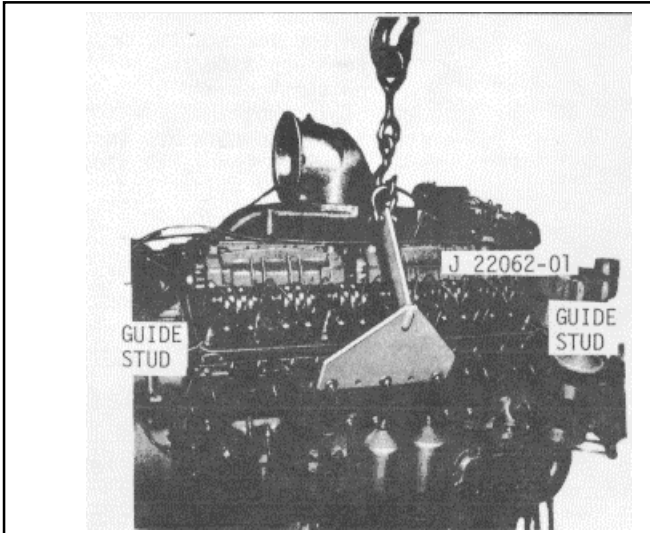

Fig. 5 Removing or Installing Cylinder Head
- (4) Loosen the hose clamps and remove the hose attached to the thermostat housing cover.
- (5) Loosen the hose clamps at each end of the water bypass tube and remove the tube.
- (6) Remove the thermostat housing assembly.
- (7) Clean and remove the valve rocker cover and governor cover.
- (8) Disconnect the fuel rod from the injector control tube lever and the governor. Remove the fuel rod.
- (9) Loosen the fuel rod cover hose clamps. Then slide the hose up on the fuel rod cover toward the governor.
- (10) Remove the exhaust manifold.
- (11) Remove the water manifold.
- (12) Remove the injector control tube and brackets as an assembly.
- (13) If the cylinder head is to be disassembled for reconditioning of the exhaust valves and valve seat inserts, or for a complete overhaul, remove the fuel pipes and injectors at this time. Refer to SM1-63-32.0 for removal of the injectors.
- (14) Check the torque on the cylinder head bolts before removing the head. Then remove the bolts and washers and lift the cylinder head from the cylinder block with tool J 22062-01 (Fig. 5). If interference is encountered between the rear end of the right-bank cylinder head and any of the flywheel attaching bolts, loosen the bolts. Checking the torque before removing the head bolts and examining the condition of the compression gaskets and seals after the head is removed may reveal the causes of any cylinder head problems.